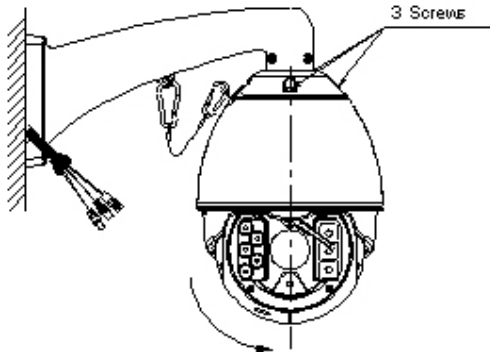
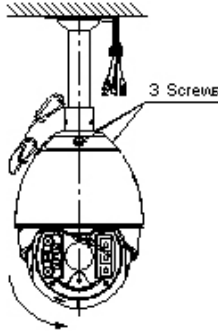

Fig 5-9 Fix screws and finish installation
Fig 6-8 Fix screws and finish installation
2. Screw off the three M5X19 screws in installation head and body(position as fig 5-9), open the installation head and take off cables.
8. After confirmation, hold the camera in both hand, follow the direction of arrow and rotate to vertical angle, then fix the three M5X19 screws as fig 5-9 by hexagon wrench.
2. Screw off the three M5X19 screws(as fig 6-8) in installation head and body, open the installation head and take off cables.
6. Connect the terminals of dome camera integrated connection line with the socket on the top of camera. After confirmation, hold the camera in both hand, follow the direction of arrow and rotate to vertical angle, then fix the three M5X19 screws as fig 5-9 by hexagon wrench, as fig 6-8.